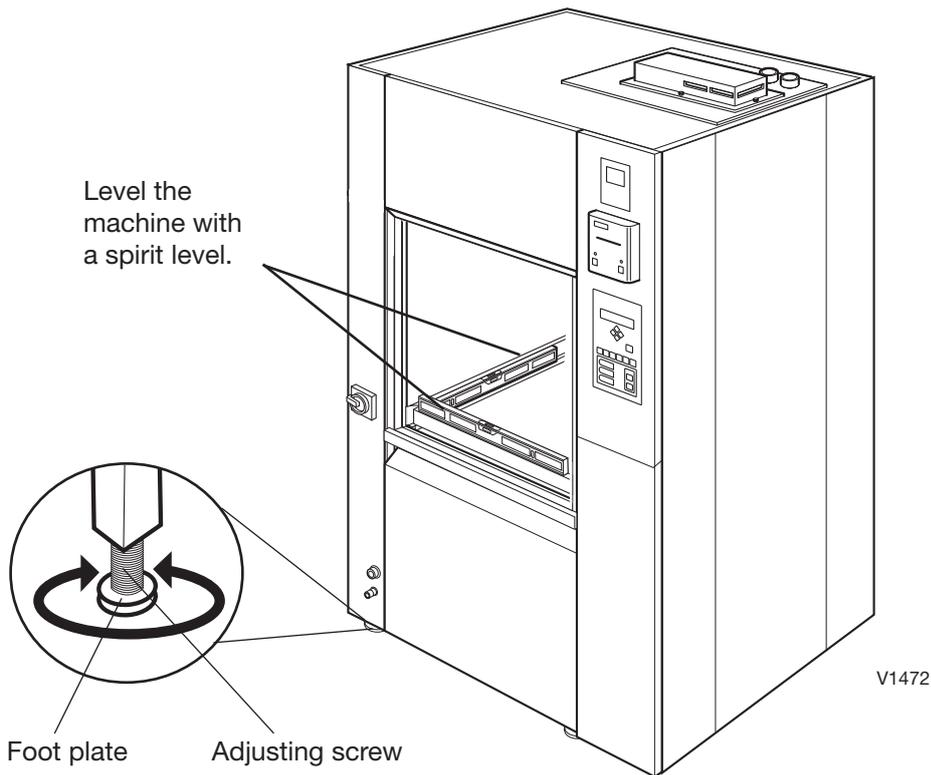

Figure 1. Adjustment
- Using a spirit level, check as shown in Figure 1 that the machine is level within ± 2 mm.